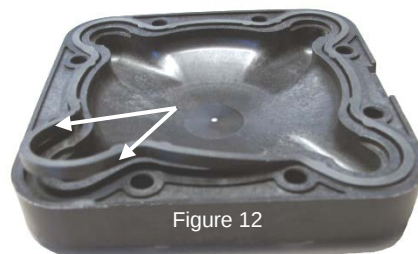

Figure 12
9) Lay the pump diaphragm cover upside down on the work surface to access the gasket. Inspect the gasket to be certain it is in good physical condition, with no pinches, tears, or other possible damage. Be certain the gasket is inserted correctly and completely into the groove in the cap. It must seal flush to the diaphragm and cap when the cap is installed (figure 12).